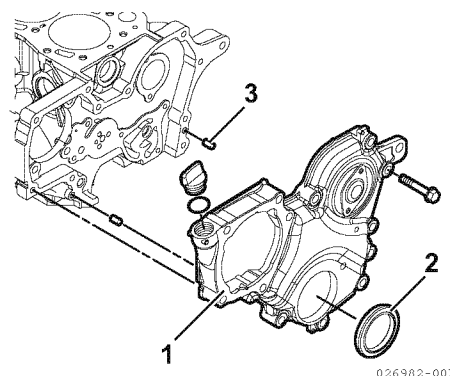

Figure 6-58
1. Remove the seal (Figure 6-58, (2)) from the gear case cover (Figure 6-58, (1)).